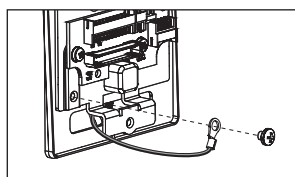

Fig. 3
- f. Secure ground lug with #6-32 machine screw. (Fig. 3)